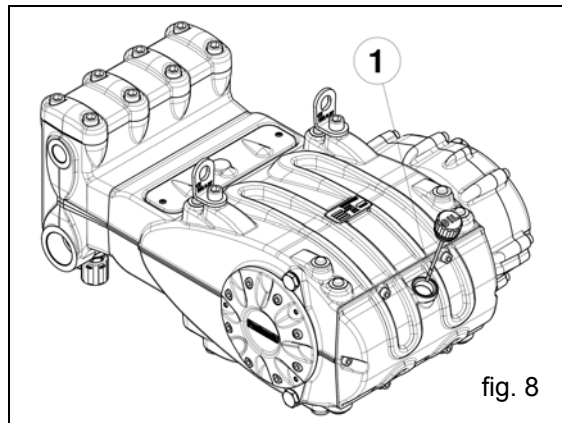

fig. 8
5. Oil in the pump casing is at level, verified with a dipstick (position 1 fig.8)